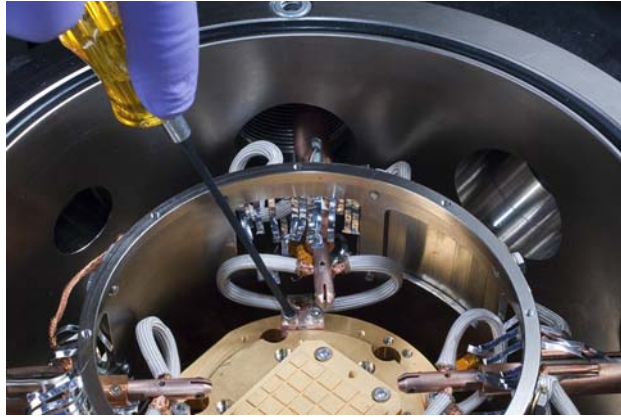

FIGURE 3-30 Braid block mounted to the sample stage
- a. Using the x-axis hand dial and y-axis micrometer, move the probe arm to expose the braid block mounting holes in the sample stage (FIGURE 3-30).
- c. Using the 2.5 mm hex driver, attach the braid block to the sample stage with the two M3 captive screws (see FIGURE 3-30 for an image of the mounted braid block).
3. Using the 2.5 mm hex driver, loosen the two captive screws on the braid block (FIGURE 3-30).
- b. Using tweezers or your fingers, position the braid block over the mounting holes (FIGURE 3-30).